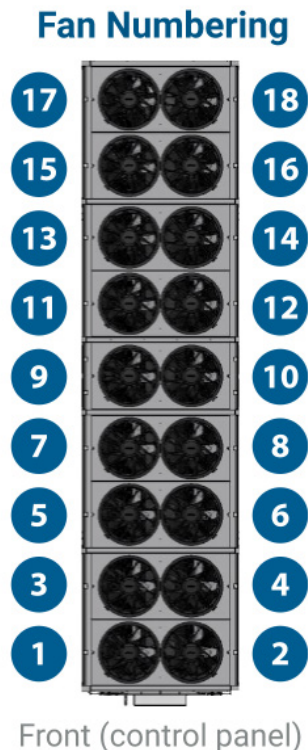

Figure 109. Fan Numbering Plan View
Replacement fans must be readdressed prior to unit operation. Refer to section **BAC Part Number 251299, Fan and Motor Removal & Installation on Page 35** or **BAC Part Number 251317 EC Fan and Motor Assembly Removal & Installation on Page 41** for instructions on removing and installing fans. Each fan needs to be assigned a unique address, starting with “1,2,3,...”. Replacement fans are pre-programmed with a default Modbus address of 247. Only one new fan can be readdressed at a time. If replacing multiple fans at a time, start with the fan closest to the control panel on the right side, Fan 2 in **Figure 109**. To address a newly installed fan:
3. Use the dropdown menu titled “Select Fan to Replace” to select the correct fan number. Refer to **Figure 109** to identify the correct fan number.